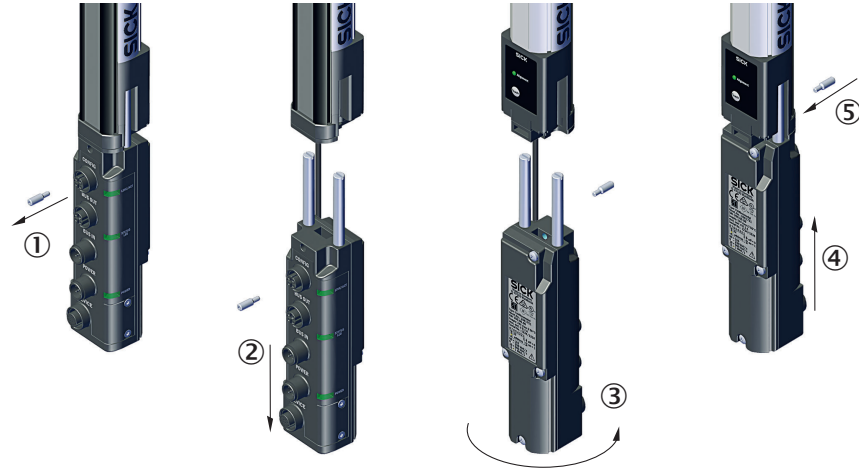

Figure 41: Turn the fieldbus module by 180°
- ▶ Remove the fieldbus module as described (see figure 41, page 46).